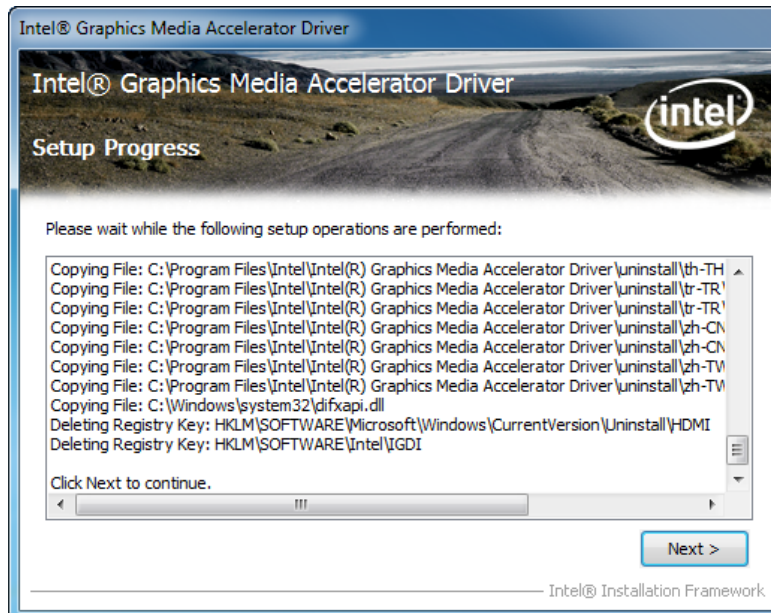

Figure 8-10: Graphics Driver Setup Operations
Step 10: **Setup Operations** are performed as shown in **Figure 8-10**.